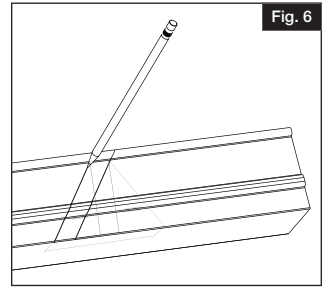
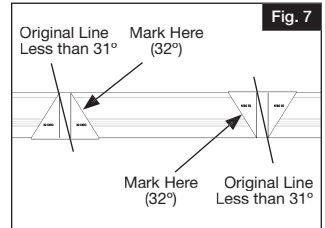

Fig. 6
Fig. 7
- Prior to installing round aluminum balusters, insert the provided foam strips into the top of the top rail and bottom of the bottom rails (sides opposite of routed holes). Cut to rail length. Then, remove 1" of the release paper from each end to expose adhesive (Fig. 6). Press fit the foam strips to rails (Fig. 7). DO NOT remove the release paper from entire strip – Only remove 1" from each end. For top rails 8' and longer in length, the strip will adhere to the aluminum stiffener instead of the top rail itself.
- From the original line created by the post, mark another line  $\frac{1}{16}$ " on the inside of the bottom rail (closer to the baluster routes) (Fig. 6). This is accomplished by using the angle template (Fig. 7). This additional removal of material will allow for bracket clearance when the rail is installed. For this 26°-31° angle, the new line will NOT be parallel to the previously drawn line.